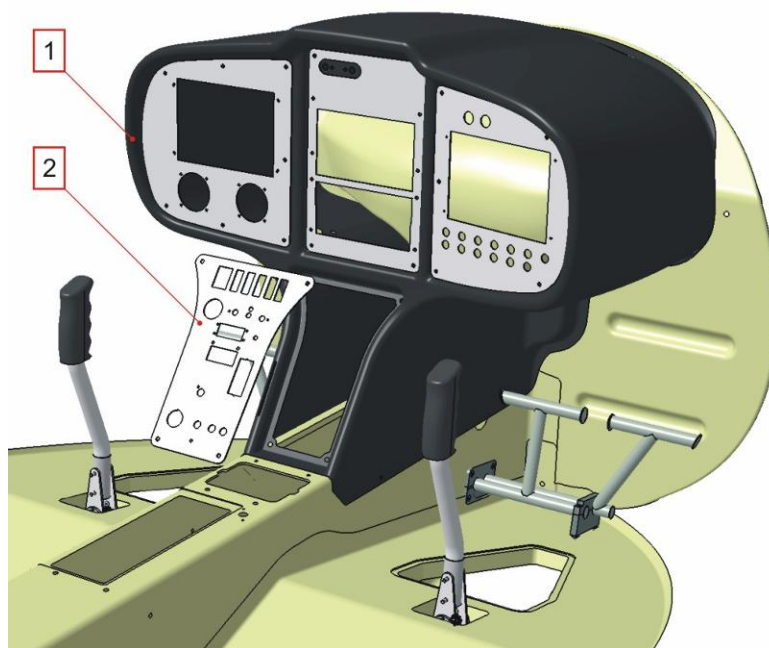

Fig. 5
- 1) Remove the middle panel KB1081300 (2) from the instrument board (1) (Fig. 5).